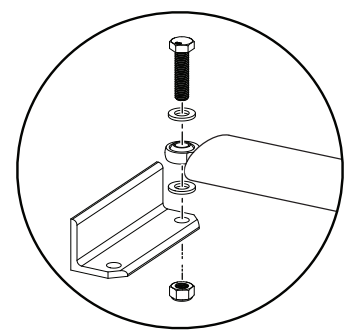

Figure 13. Gate Bracket Hardware
9. Clamp the gate bracket at Xg and the marked height (H).
10. Connect the arm assembly to the gate bracket (Figure 13).